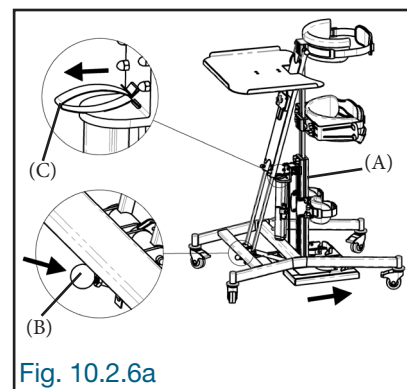

Fig. 10.2.6a
To adjust the tilt of the frame (A) forward, apply slight pressure with the tip of the foot on the lever (B) or pull slightly on the actuation strap (C), and the tilt will occur by itself. Release the pressure on the lever (B) when the desired tilt of the frame (A) is achieved (Fig. 10.2.6a).